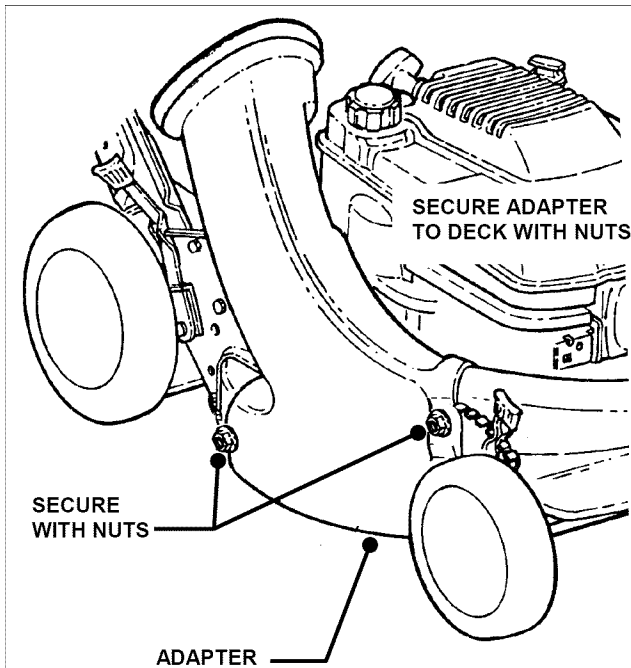

FIGURE 2.11
**STEP 1:** Install the grass bag adapter and secure to the side and top of the deck with the two nuts provided on the machine. Slot in front edge of adapter must be under nut located on top of deck. See Figure 2.11.